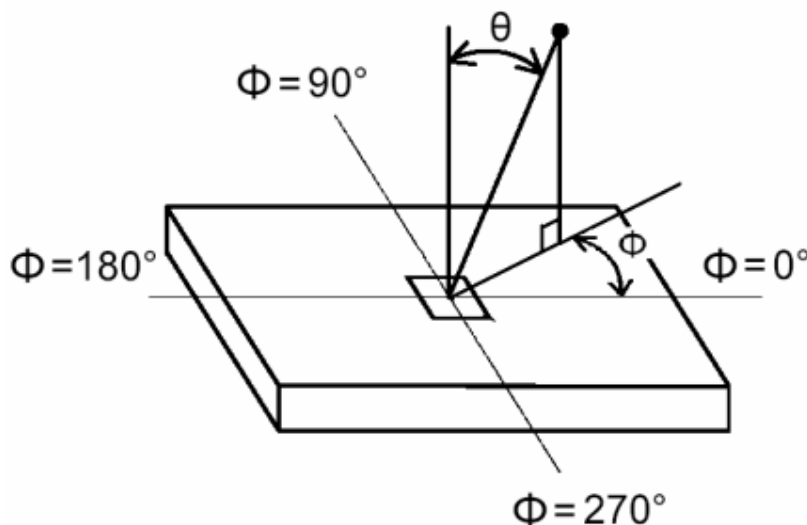

Fig.4-5 Viewing Angle Definition
6. Viewing angle is the angle at which the contrast ratio is greater than 10. The angles are determined for the horizontal or x axis and the vertical or y axis with respect to the z axis which is normal to the LCD surface. For more information see Fig. 4-5. (Optical measurement by SR3)